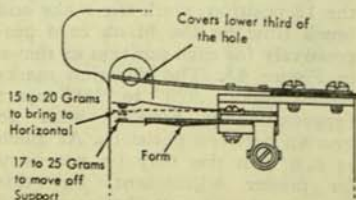

Figure 7. Escapement Adjustment
5. Form the stiffener spring, without kinking, for 17 to 25 grams tension to move the stationary contact off its support (Figure 7).
6. Form the operating strap to require 15 to 20 grams to bring the strap into the horizontal position (Figure 7). After this step, attach the operating pin and armature stop. Attach the contact assembly to the main magnet bracket. If necessary, position the auxiliary armature spring and escape contact assembly to free the pin at all three points of contact.